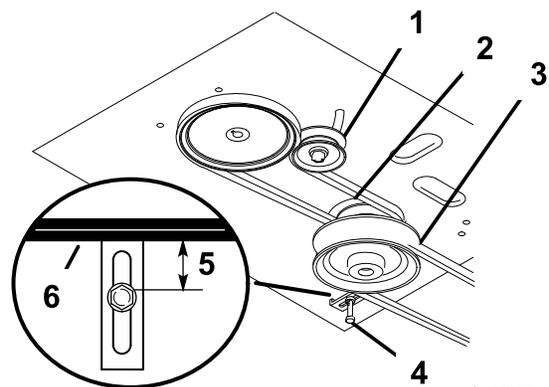

Figure 46
8. Check the belt guide under the engine frame for proper adjustment (Figure 46).
Note: The distance between the belt guide and the mower belt should be 19 mm (3/4 inch) when you engage the mower belt (Figure 46). Adjust the mower belt as necessary. The disengaged belt should not drag or fall off the pulley when the guides and belt tension are properly adjusted.